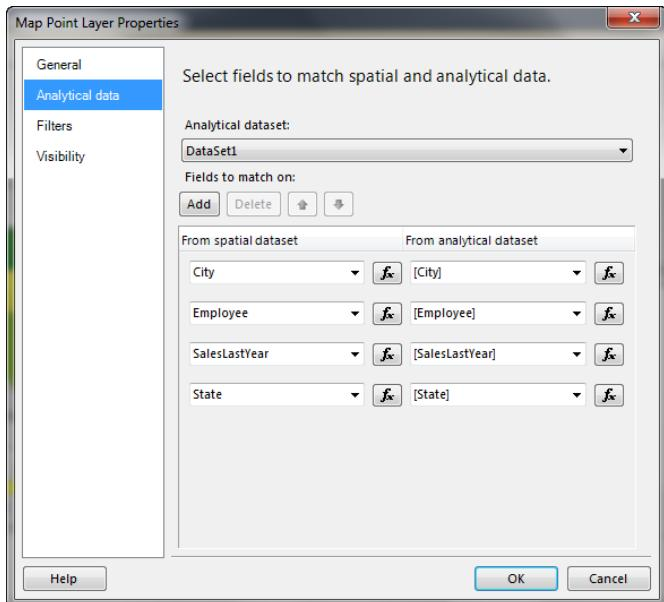

Figure 6-32
4. Select your dataset and add map the data columns from the spatial dataset to the analytical dataset as seen in Figure 6-32. Click OK to close the Properties dialog.